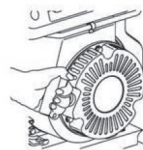

Fig. 8
4.6 Pull up the Starting Handle gently until resistance is felt, then pull it up rapidly. Put back the handle slowly to avoid damage to the starting system. Turn the key-switch to START position for E-start Models. (Fig. 8)